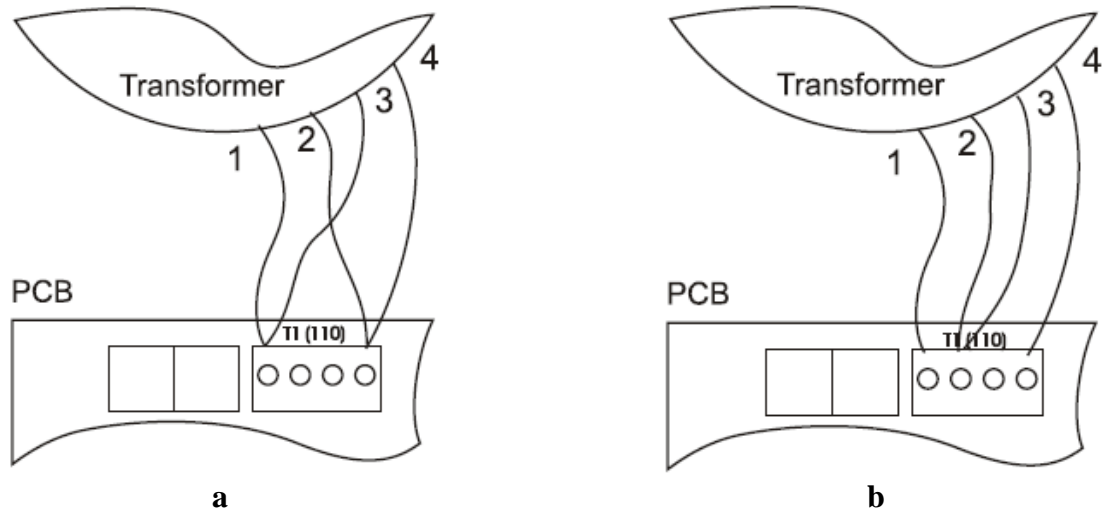

Figure 2. Adjustment of Power Supply Voltage 110V (Figure a), 220V (Figure b).
6. **Check correspondence of on-board power supply with requirements of this Operating Manual (110 or 220V AC). From the plant PSU are delivered adjusted for the mains supply voltage 220V 50/60 Hz. If PSU is powered from the mains 110V 50/60 Hz, then another method of transformer connection with PSU terminal “T1 (110)” shall be chosen (refer to Figure 2).**